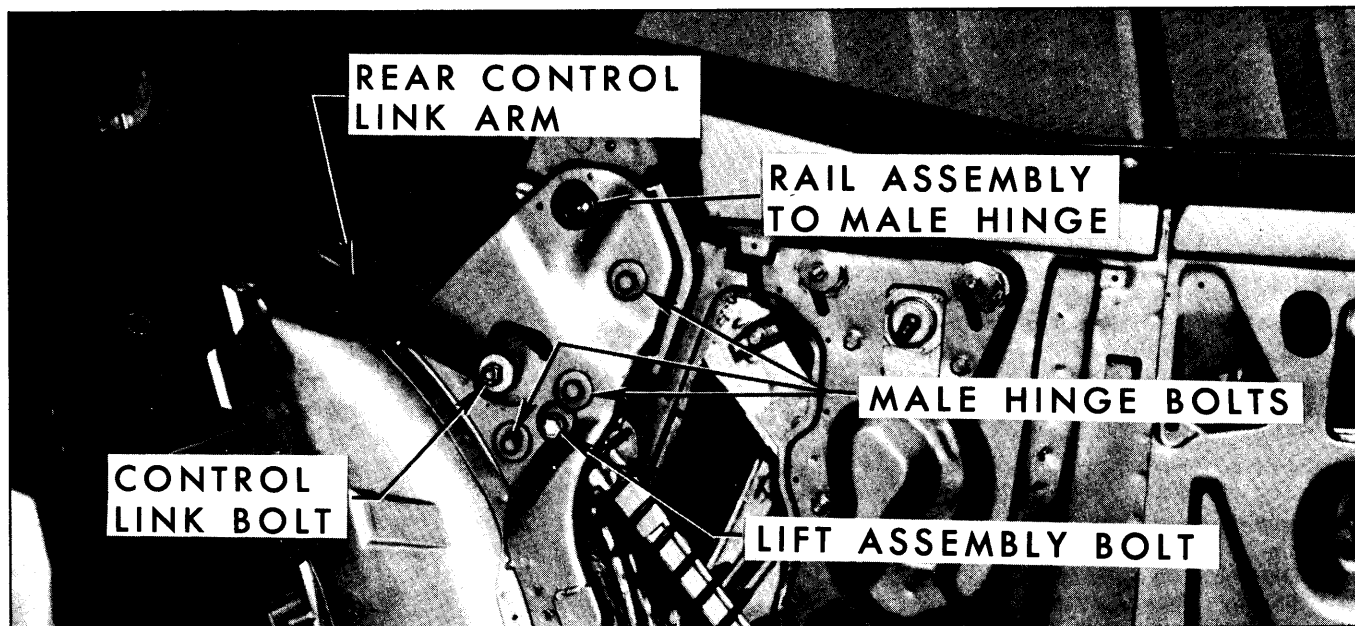

Fig. 13-83—Folding Top Linkage Attachment "F" Styles
- b. Loosen bolt securing control link sufficiently to permit adjustment (See Fig. 13-83).
- b. Loosen male hinge bolts (Fig. 13-83).
- b. Loosen male hinge bolts (See Fig. 13-83).
height or rearward to raise stack height (Fig. 13-83).
NOTE: When rotating male hinge be certain position of rear rail to male hinge is maintained (Fig. 13-83).